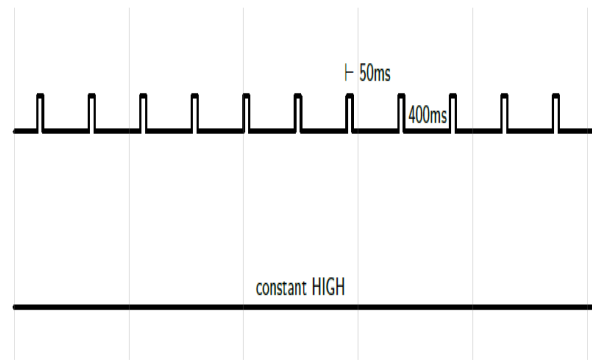

Figure 2-13 Low battery indicator timing
- Pulse patterns are shown in the Figure 2-13 Low battery indicator timing.